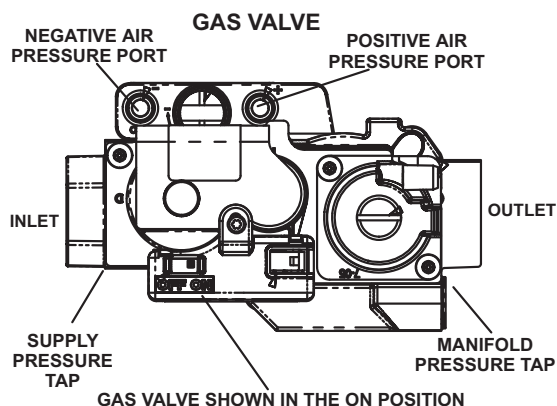

FIGURE 50
### Gas Valve Operation (Figure 50)
- 6 - Move gas valve switch to OFF. See figure 50.
- 8 - Move gas valve switch to ON. See figure 50.